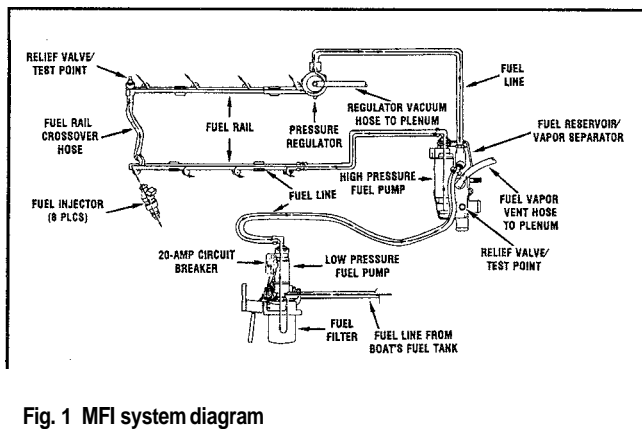

Fig. 1 MFI system diagram
- See Figures 1, 2, 3, 4 and 5